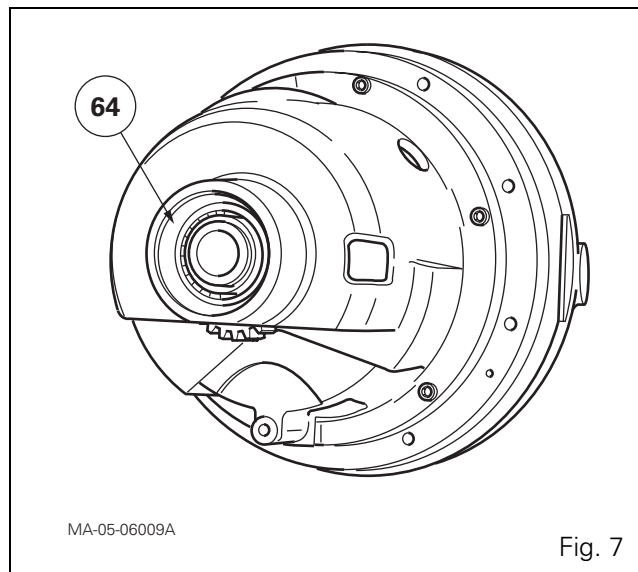

Fig. 7
18. On the input unit, check that the cup (64) (Fig. 7) is fitted.